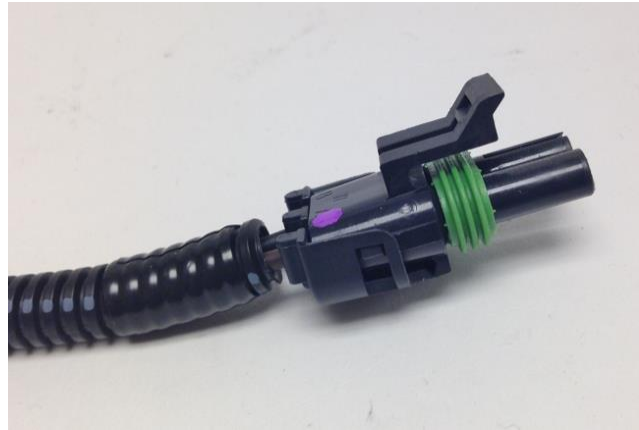

Figure 12 - Washer Pump Connection
23. The Detroit Speed Selecta-Speed harness does include a weather pack connector to install an optional electric inline washer pump into your vehicle (Figure 12). Detroit Speed does offer a washer pump kit you can purchase separately as part number 121102.